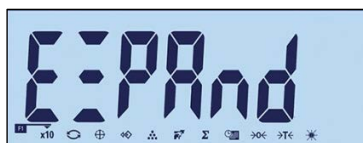
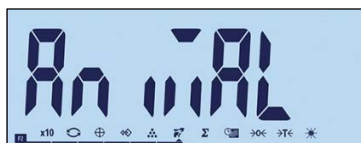

Figure 3-40: Configuring Function Key 1
Figure 3-41: Configuring Function Key 2
- Function keys can also be configured from the home screen. Press and hold the function key to be configured to access the configuration screen (Figure 3-40, Figure 3-41).
Access the F2.1.1 menu. Use the up  and down  keys to select the required function from the options shown in Table 3-3. Focus will change to indicate the selected function, as shown in Figure 3-40, where **Expand x10** is selected. Press  to confirm the selection.
Access the F2.1.1 menu and use the up  and down  keys to select the required function. Focus will change to indicate the selected function, as shown in Figure 3-41, where **Animal Weighing** is selected. Press  to confirm the selection.